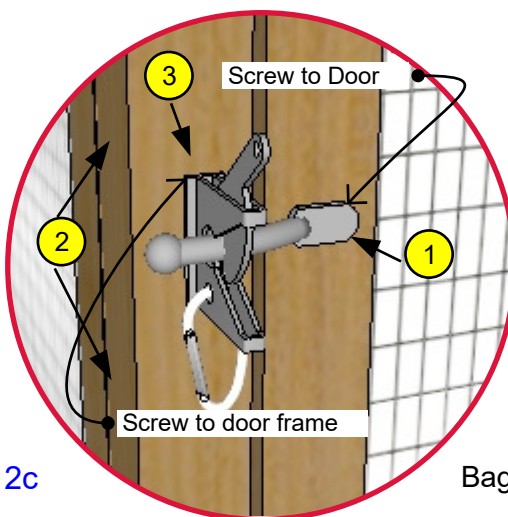
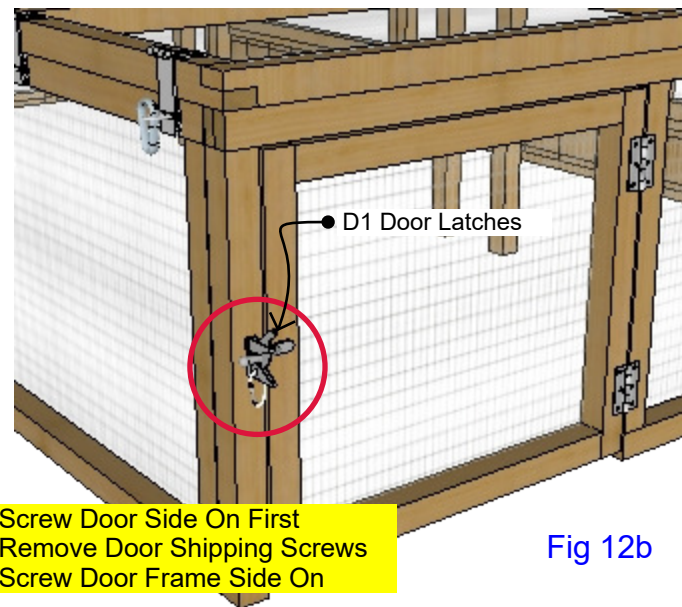

Fig 12c
Fig 12b
12.3 Install Run Door Latches - As illustrated in **Fig 12c** and **Fig 12b** attach the four **D1** Gate Latches using provided screws into pre-drilled holes on all four side run access doors. First, install door side bolt. Second, remove shipping screws from door frame with T-25 Bit and then making sure alignment for catch on door frame is good, Step 3 is to install door frame latch. Repeat this procedure for all four doors.